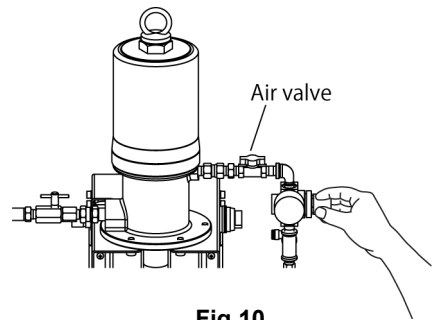

Fig.10
- 2) Open the air valve and turn the control of pump air regulator gradually to the right (clockwise). The pump will start at 0.2MPa and run for a while until the pump and hose are filled with grease. (Fig.10)